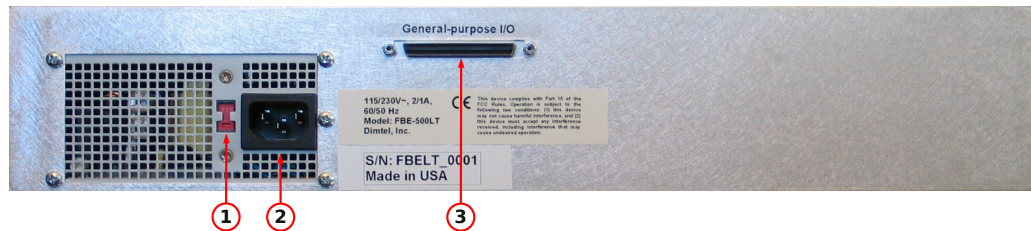

Figure 3: Rear panel features
WARNING: Before connecting power to the unit make sure the voltage selection switch (Fig. 3, item 1) is in the correct position (115 or 230 V).
1. Configure voltage selection switch (Fig. 3, item 1). Mains supply requirements for the FBE-352LT/NOBE are listed in Table 4;
9. Using the supplied 68-pin GPIO cable connect the iGp/iGp12 interface (Fig. 3, item 3) to the GPIO connector on the iGp/iGp12;